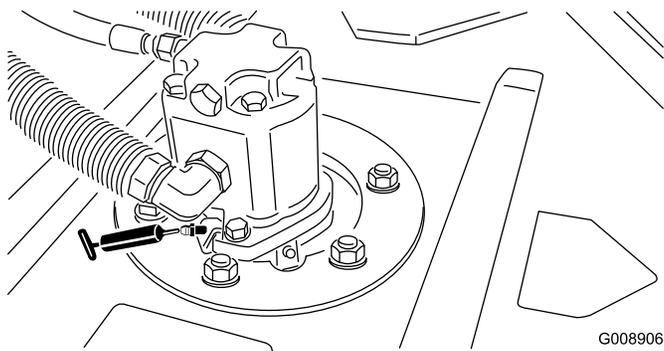

Figure 41
- Cutting unit spindle shaft bearings (1 per cutting unit) (Figure 41)